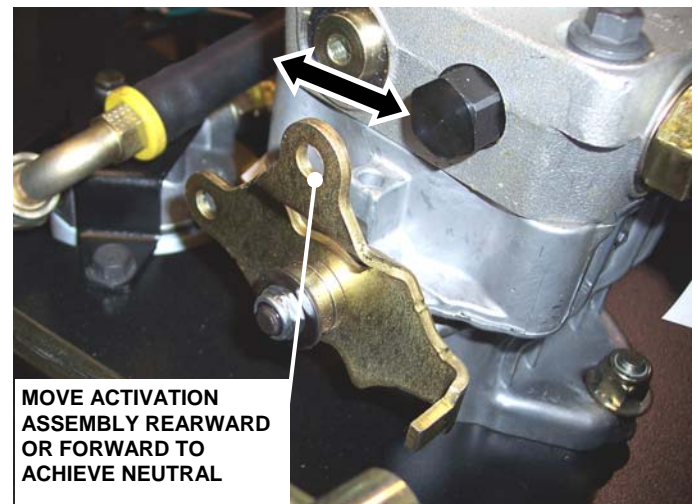

FIGURE 5.3
10. If wheel(s) are rotating, move activation assembly forward or rearward to stop rotation of wheel. Repeat this step for other hydro pump. See Figure 5.3.